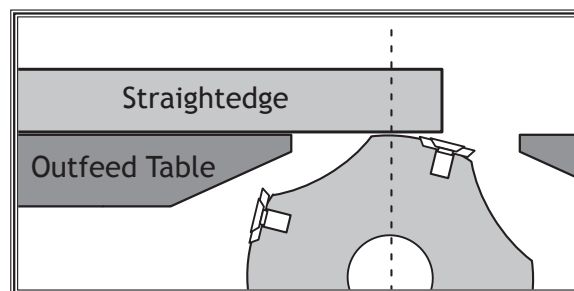

Figure 33. Cutterhead body at highest point of rotation.
1. Place straightedge on outfeed table so it hangs over cutterhead, then insert included Torx driver into cutterhead rotation guide and rotate cutterhead until cutterhead body is at the highest point of rotation (see **Figure 33**).